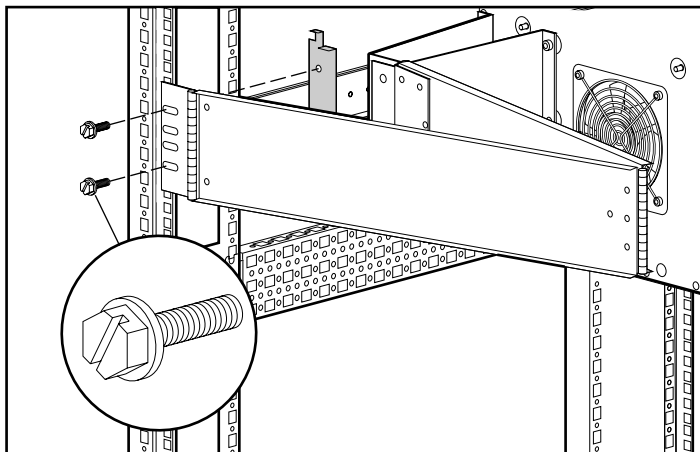

Figure 3-15: Attaching the cable management arm to the vertical side rail
3. Attach the arm to the rack with two 10-32 x 5/8 washer face slotted hex head screws as shown Figure 3-15.